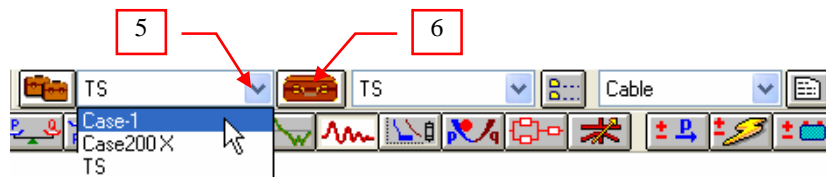

Fig. 2
5. Select the study case which was created in Step 4 on the “Study Case” pull down box. See Fig. 2.
6. Click on “Edit Study Case” button to specify the study conditions for “Case-1” study case. See Fig. 2